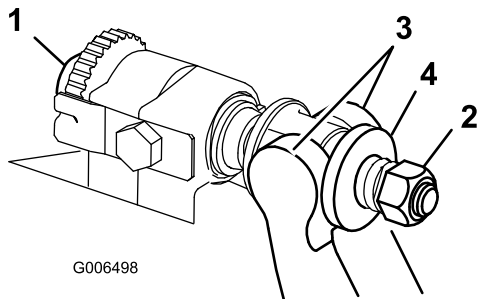

Figure 31
- Turn bedbar adjuster screws, counterclockwise, to back bedknife away from reel (Figure 31).
- Back out the spring tension nut, until the washer is no longer tensioned against the bedbar (Figure 31).